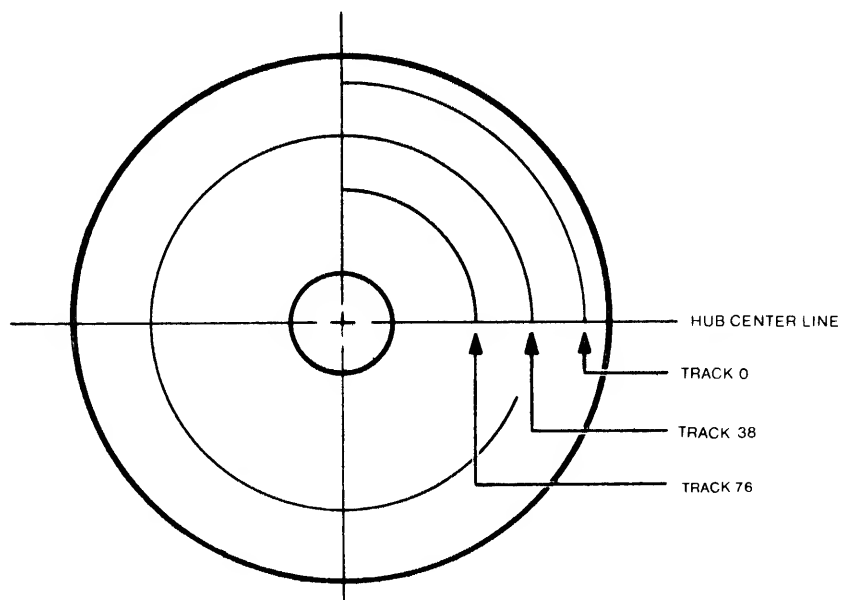

Figure 4-2. Hub Center Line and Track Locations
The Cats Eye (CE) alignment procedure positions the Read/Write Head at the proper radial distance from the hub center line, ensuring the accuracy of the track alignment (see figure 4-2). This procedure is necessary only after other servicing or if diskette interchange problems are suspected.